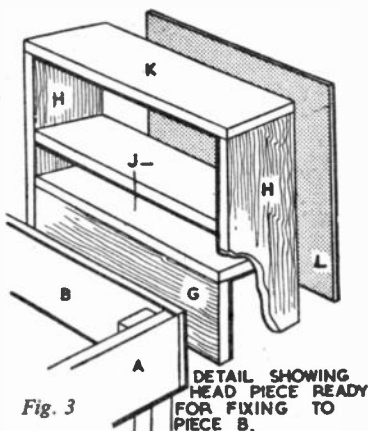

Fig. 3
The cabinet, which forms the head of the bed, is shown in Fig. 3. The pieces (H), (J), (K), (L) and (G) are butted together and secured with glue and